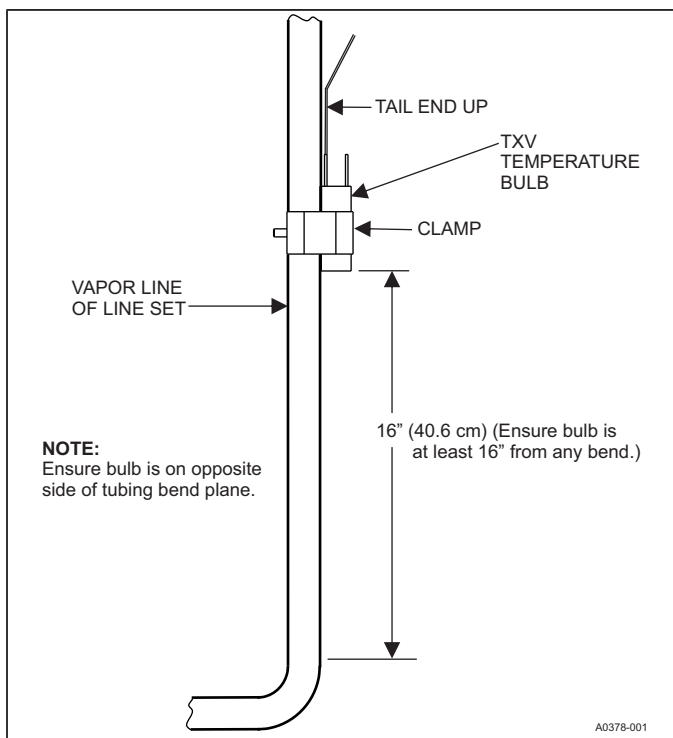

Figure 11: Vertical temperature bulb orientation
- b. If bulb installation is made on a vertical run, ensure that the bulb is a minimum of 8 in. (20.3 cm) away from the elbow coming out of the coil. Position the bulb with the tail of the bulb at the top, so that the bulb acts as a reservoir. See Figure 11.